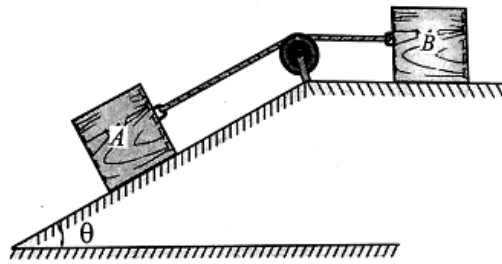

Fig.8
- Find the value of ' $\Theta$ ' if the block 'A' and 'B' shown in Fig.8 have impending motion. Given block A = 20 kg, block B = 20 kg,  $\mu_A = \mu_B = 0.25$ . [L1][12 M]